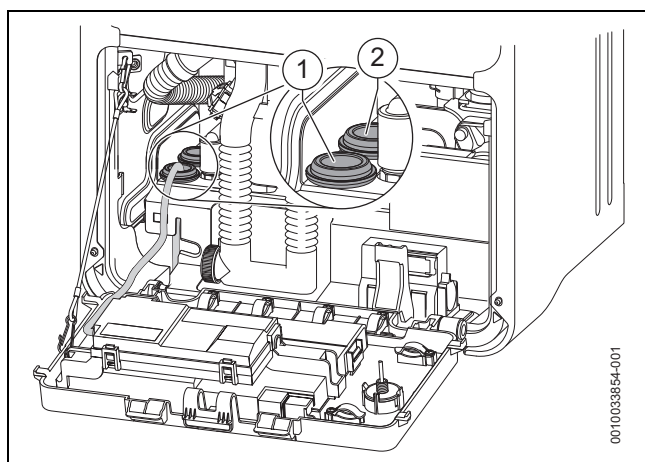

Fig. 50 Mains supply cable routing
- Mains supply cable routing must be routed through either of the rubber grommets in the frame assembly → Figure 50.